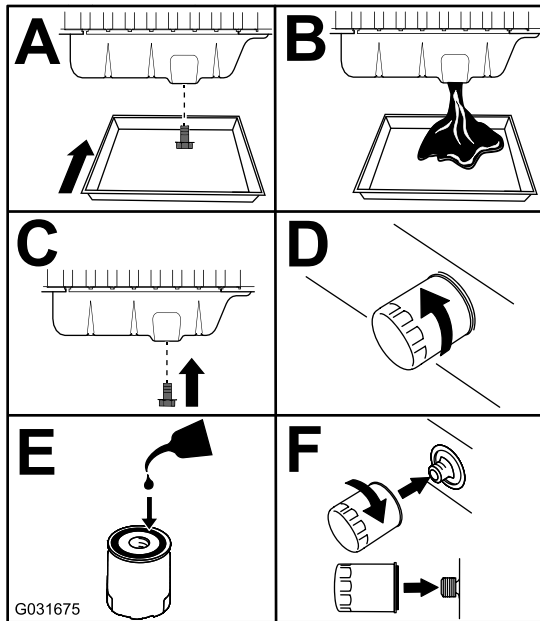

Figure 48
3. Replace the engine oil and filter (Figure 48).